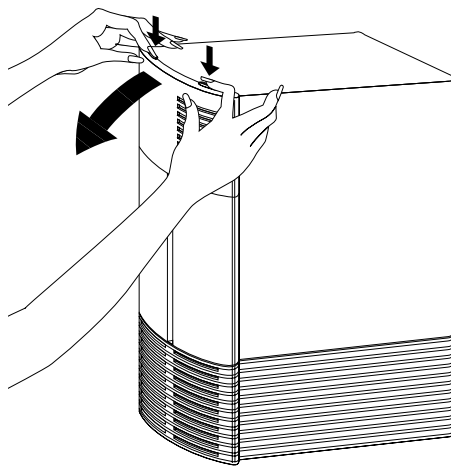

Figure 6-36 Removing the Front Plastic Cover of the Indigo Chassis
- Press down on the tabs and pull the cover away from the chassis, as shown in Figure 6-36.